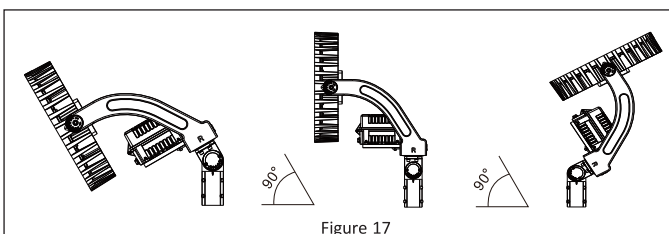

Figure 17
3. The LED fixture can now be aimed to achieve optimal light coverage by loosening the adjustment screw on the Slipfitter mount. **See Figure 17.**